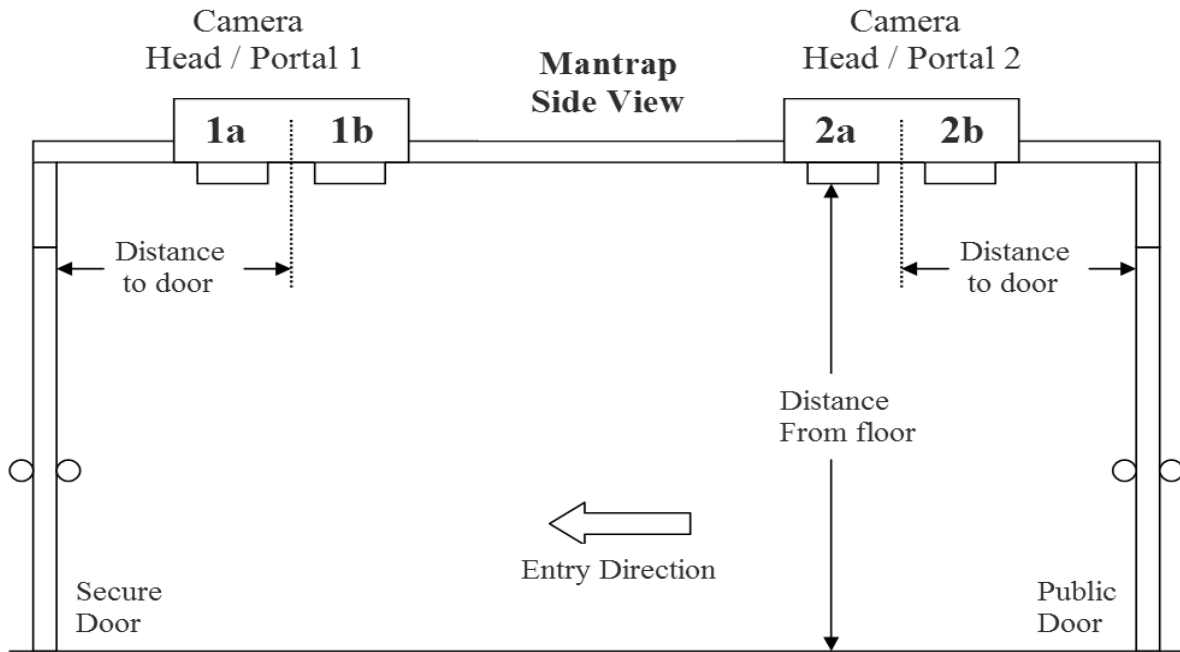
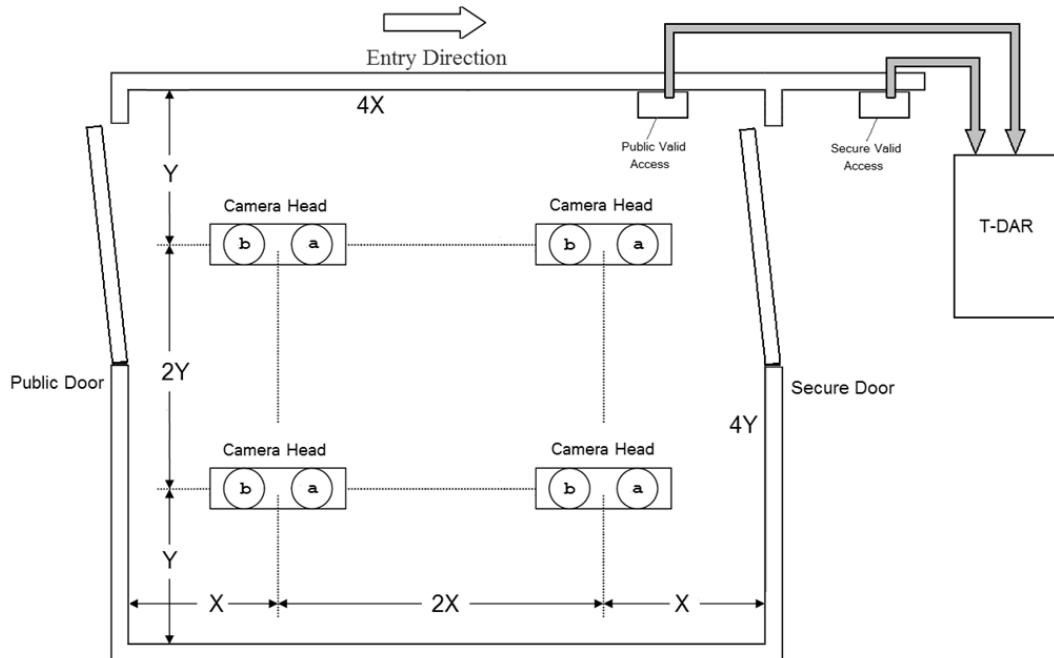

Figure 16 - Stereo Tracking Head Reference
Figure 17b – Stereo Tracking 4 Head Reference
When measuring the “Distance between two cameras”, measure from center point (between two lenses) to center point. For parallel (par), the cameras are lined up parallel with the plane of the door (closed). In perpendicular alignment (perp), the cameras are lined up perpendicular to the plane of the door (closed). Perpendicular alignment is recommended and is shown in figures 16 and 17 for a two head mantrap. Note that two camera heads may never be more than 5ft (1524mm) apart and that the distance from the wall (or door) should never be more than 2.5ft (762mm). The distance between heads is measured in inches or mm and should always be a positive value.
(between two lenses) to center point. Note that two camera heads may never be more than 5ft (1524mm) apart and that the distance from the wall (or door) should never be more than 2.5ft (762mm). Ensure that each camera head is positioned square to the surrounding camera heads. Figure 17b shows a basic four head arrangement comprising a four head mantrap T4010MT.
The distance of the tracking cameras from the doors, for a two head system, should follow the relationship (distance from door) = (mantrap length)/4. This is shown in figure 16 and 17. For a Four Head Mantrap, refer to figure 17b.
1. Ensure that the stereo tracking heads are mounted at the correct locations according to the chart in Figure 16. Camera head 1 should be closest to the secure door and camera head 2 should be closest to the public door.
7. For both Camera Heads 1 and 2, ensure Camera a (1) is closest to the secure door and Camera b (2) is further from the secure door.